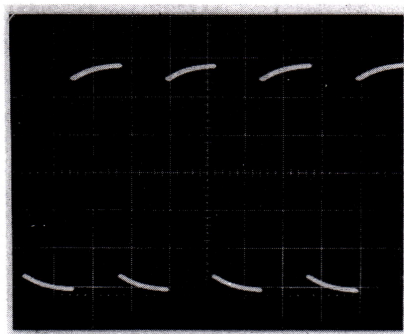

Figure 8.3 Over-compensation
- A trimmer can be adjusted through a hole in the compensation box to obtain optimum square-wave response, see figure 8.3, 8.4 and 8.5.